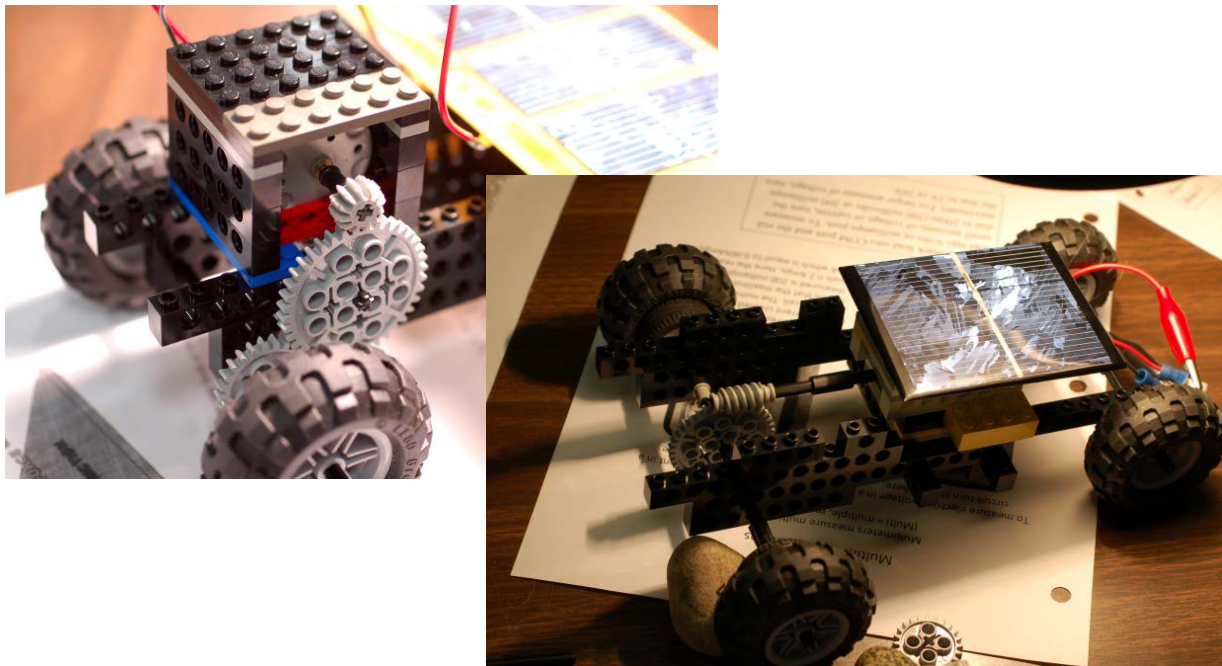

Figure 18. Well designed vehicles
Step 2: Ideally, perform the final testing outside on a sunny day. Sidewalks are a suitable surface. Have each team test their design in order, calculating the time to traverse 1 meter and the weight pulled by the vehicle. Have students record their final design and results on a story board square. See Figure 18 for examples of well-designed vehicles.